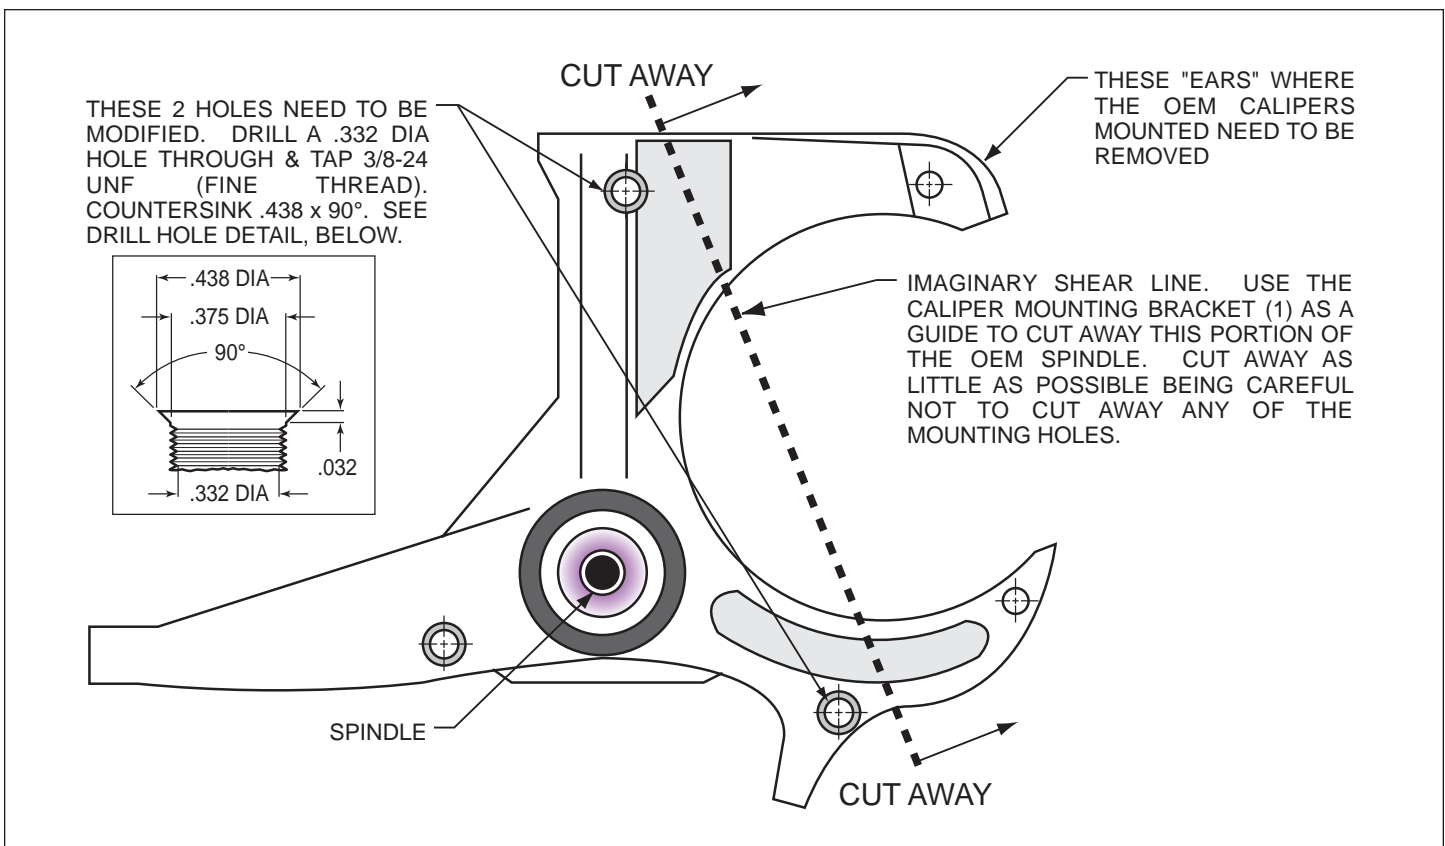

Figure 1. Steering Arm / Spindle Modifications
These modifications should be performed by a qualified machinist. Refer to Figure 1 as necessary (numbers in parenthesis refer to the parts list). Only one view of the steering arm/spindle is shown, but the modifications need to be performed on both steering arm/spindles.
- Apply red *Loctite*® 271 to bolt threads (2) before assembly of the caliper bracket (1) to backing plate face of spindle. Position the caliper mounting bracket (1) onto the spindle while positioning spacers (3) between bracket and spindle face. Slip the mounting bolts (2) into the threaded spindle holes, finger tighten. Torque two bolts (2) to 30 ft-lb. **NOTE:** Be sure the heads of the caliper bracket (1) insert nuts are facing outward toward the wheel.
- Install five new wheel studs (4) into the hub (5). Torque to 77 ft-lb. **NOTE:** There are two five lug patterns in the hub (5 x 4.50 and 5 x 4.75). Make sure of the correct hole pattern for the correct wheel application before installing studs into hub.
- Pack the large inner bearing cone (6) with high temperature disc brake bearing grease (available from your local auto parts store) and install into the backside of the hub (5).
- Install the grease seal (7) by pressing into the backside of the hub (5).
- Orient the rotor (9) and the rotor adapter (8) as shown in Figure 1. Attach the rotor to the adapter using bolts (10). Using an alternating sequence, apply red *Loctite*® 271 to the threads, and torque to 25 ft-lb.
- Mount the adapter/rotor assembly (8/9) to the hub (5) using bolts (11), as shown in Figure 1. Using an alternating sequence, apply red *Loctite*® 271 to the threads, and torque to 45 ft-lb.
- Pack the small outer bearing cone (12) with high temperature disc brake bearing grease and install into front of hub (5). Slide the hub/rotor assembly (5 and 9) with outer bearing cone (12) onto the spindle. Secure using supplied washer (13), original adjusting nut and nut locking device.
- Install the dust cap (15) onto the hub (5). Friction created by the o-ring (14) on the dust cap (15) keeps it from unscrewing. The O.D. of the existing spindle washer may be larger than the I.D. of the dust cap (15) not allowing it to seat against the hub face. Therefore, use the spindle washer (13) supplied with the kit instead of the stock washer.